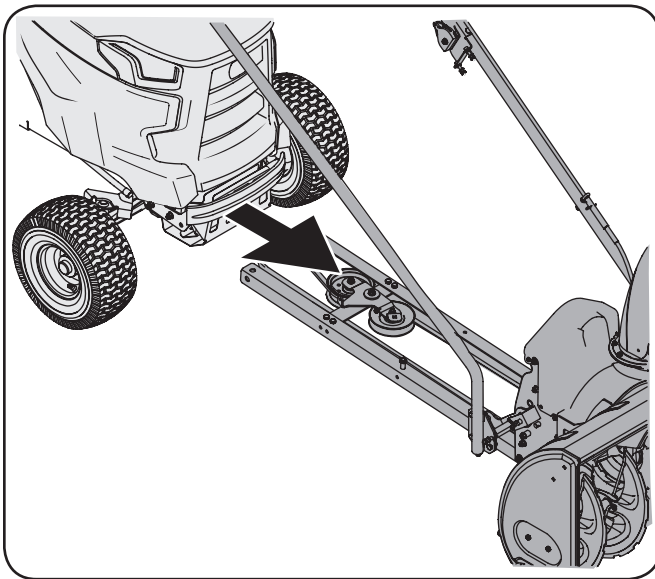

Figure 3-23
1. Roll the tractor into position over the frame rail assembly, aligning the frame rails with the carriage assembly. See Figure 3-23.